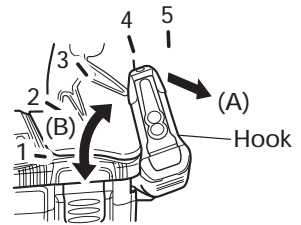

Fig. 5
(1) Operating the hook
- (a) Pull out the hook toward you in the direction of arrow (A) and turn in the direction of arrow (B). (Fig. 5)
- (2) The direction of the light can be adjusted within the range of hook positions 1 - 5. (Fig. 5)